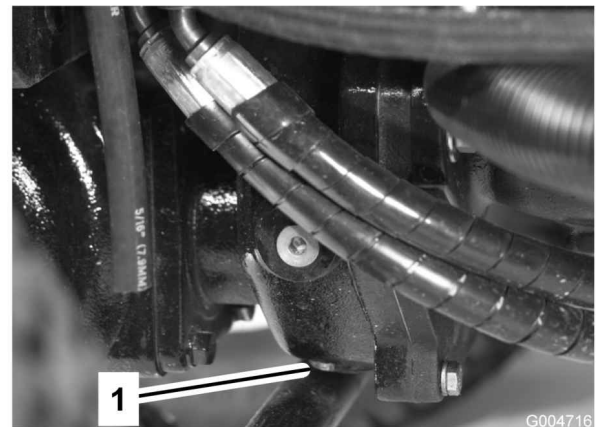

Figure 60
- Clean the area around the drain plug on the bottom of the gear box (Figure 60).